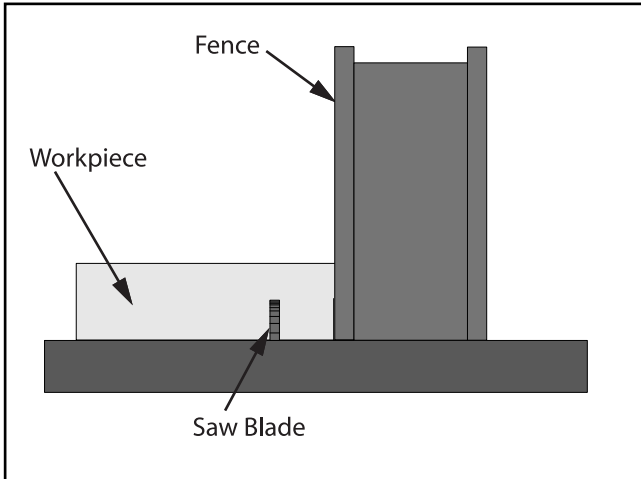

Figure 51. Rabbet cutting.
3. Adjust the fence so the blade is aligned with the inside of your rabbet channel as shown in **Figure 51**.